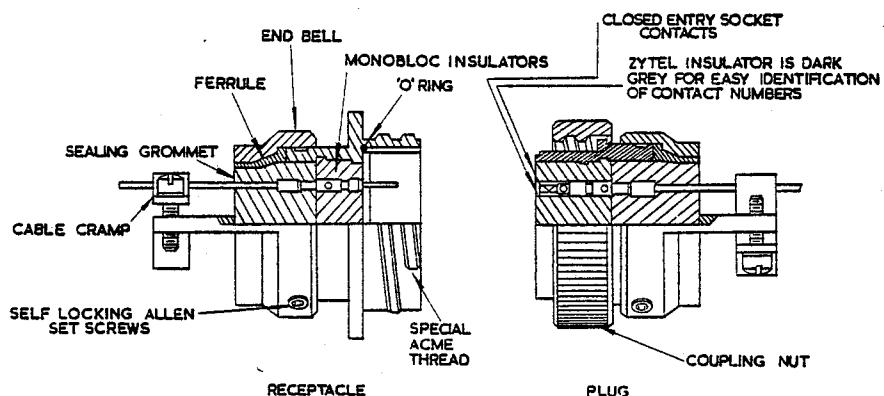

Fig. 1. Sectional view of KM connectors
1. The fully environmental KM series of connectors are designed and qualified to military specification MIL-C-25955. Exploded and sectional views of KM series receptacles and plugs are shown in fig.1 and 2. Hermetic connectors (KH series) qualified to MIL-C-25955 are described in Chap.1-2.